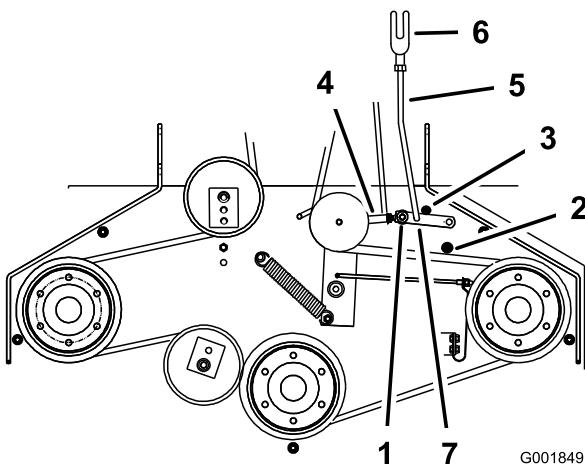

Figure 52
11. Install the assist arm link into the assist arm and secure it with the hairpin cotter pin (Figure 52).
8. To adjust the assist arm link, remove the hairpin cotter pin from the assist arm (Figure 52).